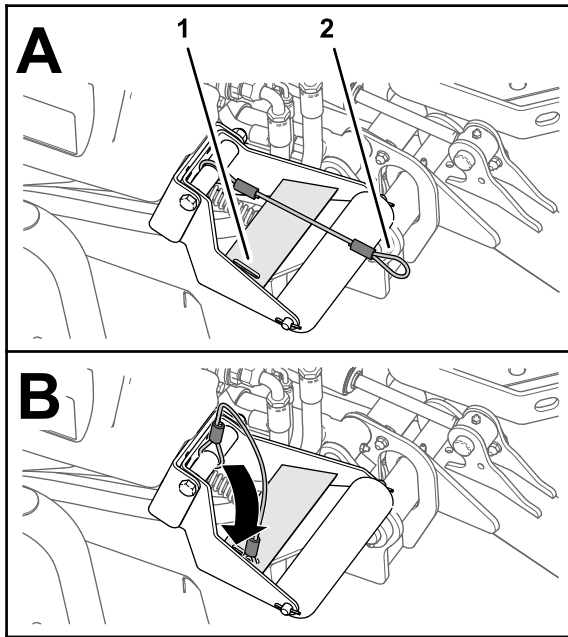

Figure 29
4. With the cutting units lowered, slip the loop of the lanyard into the slot in the reinforcement plate of the roller support (Figure 29).